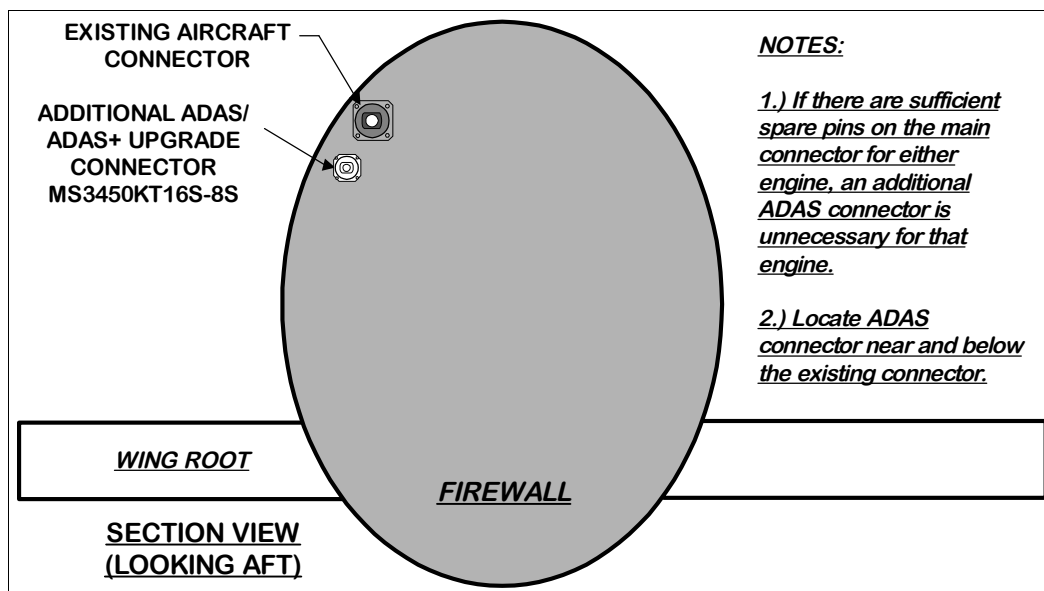

Figure C- 17: Firewall With Additional ADAS/ADAS+ Upgrade Connector
- ❑ 080 Refer to Figure C- 17. Determine whether the existing aircraft engine bulkhead/firewall mounted connectors have enough spare pins to connect the torque signal cable. If they do, utilize the existing connector to route the cable to the engine torque transducers. If not, install the supplied MS3450KT16S-8S and MS3450KT16S-8P bulkhead connectors, together with the M85049/41-10A backshells to route the wires to the torque transducers. Mount the connectors near the existing connector, but not so close as to interfere with it.
- ❑ 090 Refer to Figure C- 17. Determine whether the existing aircraft engine bulkhead/firewall mounted connectors have enough spare pins to connect the torque signal cable. If they do, utilize the existing connector to route the cable to the engine torque transducers. If not, install the supplied MS3450KT16S-8S and MS3450KT16S-8P bulkhead connectors, together with the M85049/41-10A backshells to route the wires to the torque transducers. Mount the connectors near the existing connector, but not so close as to interfere with it